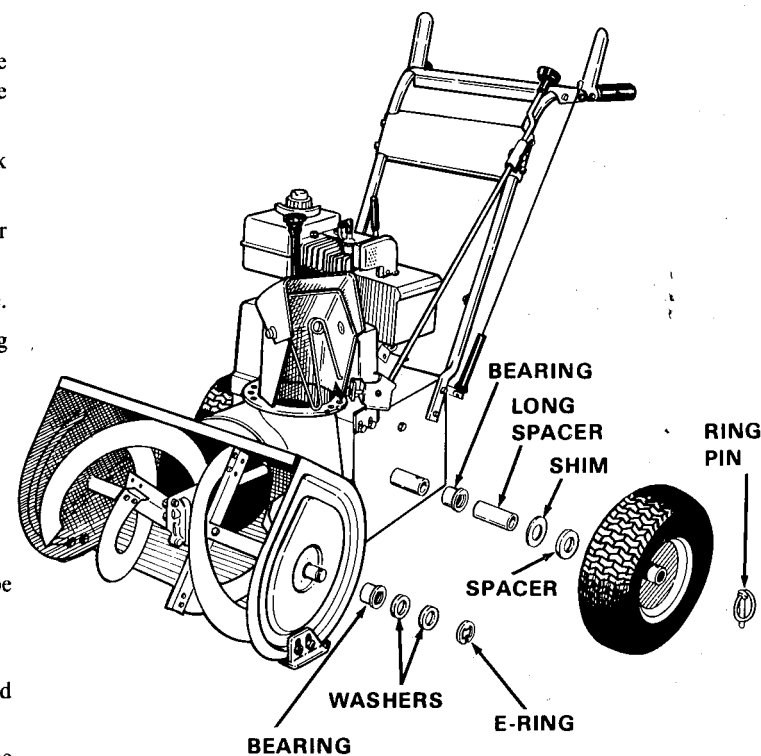

Figure 11. Wheel & Auger Bearing Replacement
6. Install parts in original position. Refer to figure 11.
1. Pry off the E-ring (figure 11).